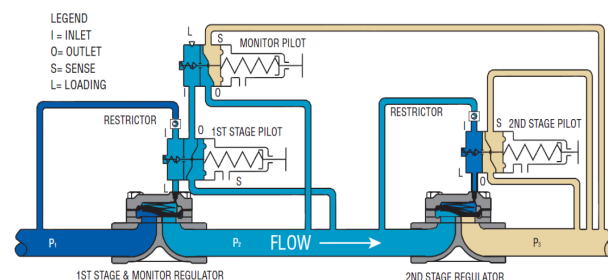

Figure 4
- **Working Monitor:** In this configuration, the monitor regulator is installed upstream of the working regulator and is configured with two pilots (Figure 4). The first stage pilot is actively controlling the monitor regulator and taking a pressure cut upstream of the working regulator. The second monitor pilot remains open and inactive. If the working regulator fails and downstream pressure increases, the second monitor pilot comes into active control and the first stage pilot remains open and inactive. This configuration makes use of both regulators during normal operations and helps distribute the pressure cut across both regulators.